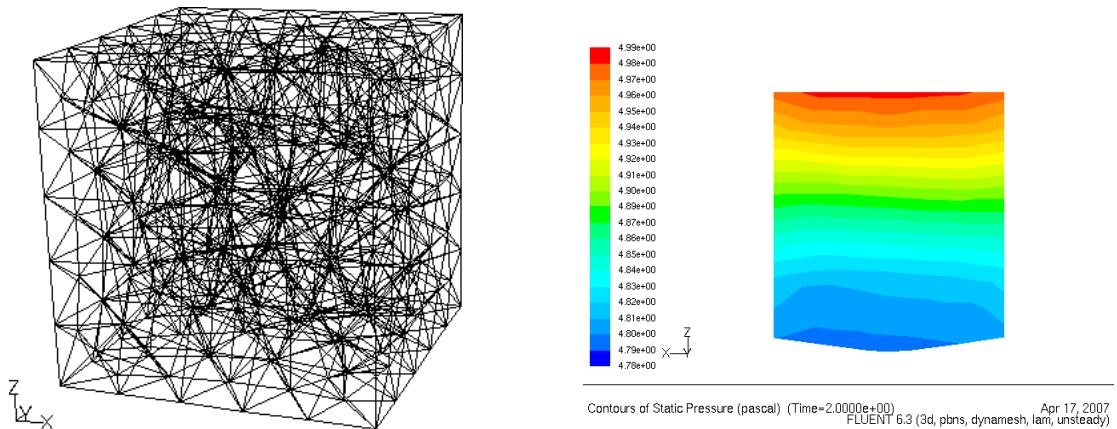

Figure 6: FLUENT mesh and result of the cube example.
- Now, `FLUENT` should perform 20 iterations while “foundation” finishes its computation. The `FLUENT` result is depicted in Figure 6. You should clearly recognize the deformation of the bottom where the elastic foundation is coupled.